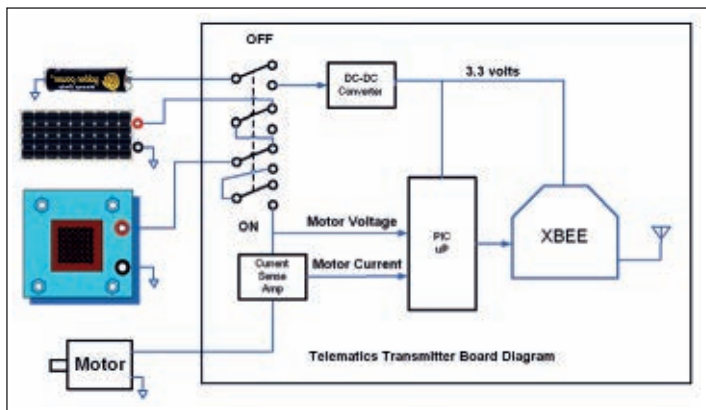

Figure 4. Telematics Transmitter Board Diagram.
Put a small bead of silicone glue around the inside of the 3.25" hole in the box. Mount the Plexiglas to the inside of the box using one 6-32 screw where the antenna will be. Use three each of 3/4" 6-32 screws for the remaining holes. Add the 3/8" standoffs. The board holes will self-thread or you can secure the board to the chassis using three 6-32 nuts. Once tightened, use fingernail polish to secure the nuts. Add a small amount of silicone glue around the antenna. Push the antenna through the hole and fasten with its screw. Its flat area should be on the LED side of the board (**Figure 4**). Add the plug to the switch hole. Drill two holes in the lid to hold the battery box; secure the battery box either with screws or pop rivet.
transmitter unit mounts on the Hydrocar's reversible fuel cell and has terminals that attach to the fuel cell, the solar panel, and the motor. There is also an ON-OFF switch that controls both the electrolysis function of the fuel cell (OFF), as well as switching over to power the transmitter electronics and motor after enough hydrogen has been created (ON). When the switch is OFF, voltage from the solar panel flows into the reversible fuel cell to allow the water to be split into hydrogen and oxygen (**Figure 4**). Substitute a three volt battery for the solar panel if you want the electrolysis process to go faster.